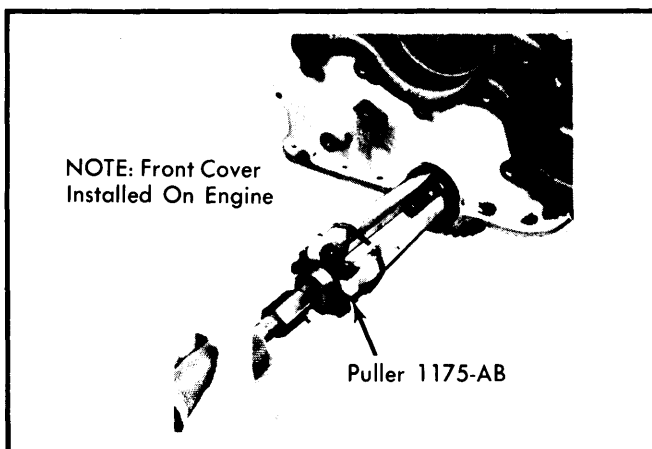

Fig. 7 Front Cover Oil Seal Removal
1) Drain cooling system and remove radiator, crankshaft pulley and water pump drive belt. Use suitable puller (1175-AB) to remove seal. See Fig. 7.